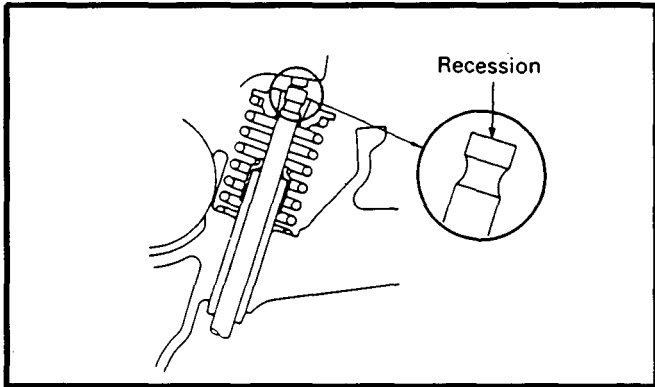

Figure 37.
4. Check the valve stem head for wear. See Figure 37.